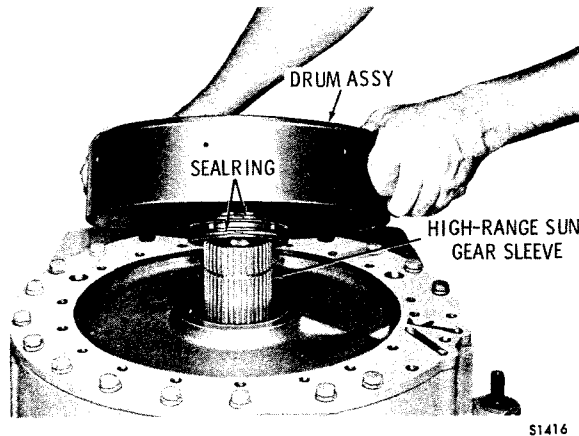

Fig. 5-24. Removing low-range clutch drum assembly
(5) Lift the low-range clutch drum assembly out of the adapter assembly (fig. 5-24).